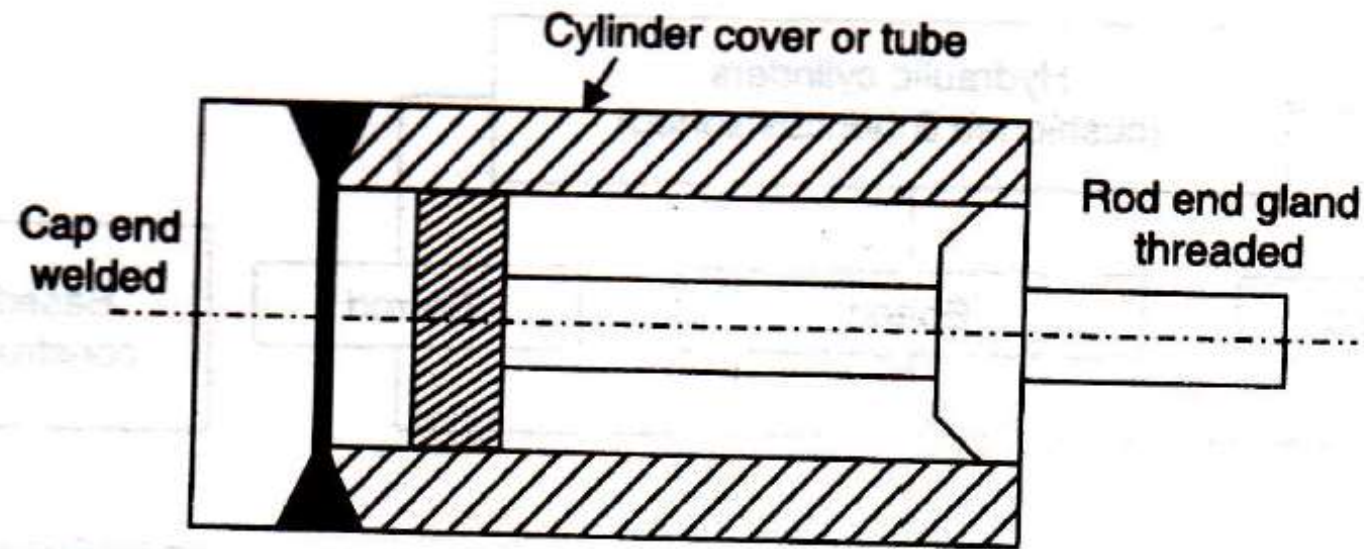

Figure 4.4 Welded construction with gland threaded at the rod.
- (ii) Welded design (Figure 4.4)